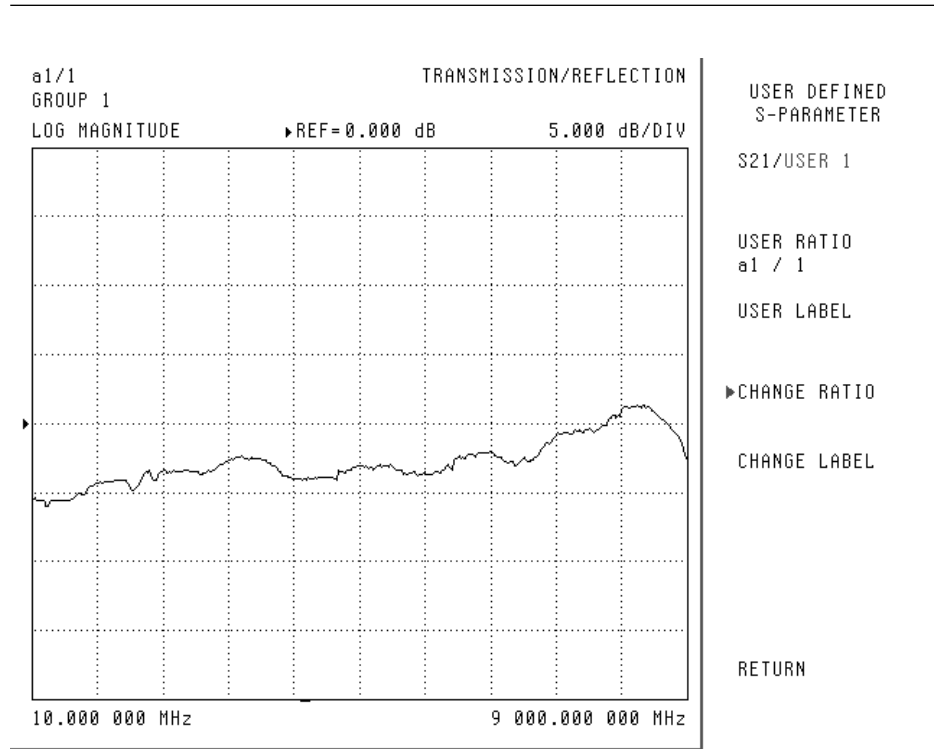

Figure 3-2. Non-Ratioed Parameters Waveforms
5. For the model under test, ensure that the minimum value of the RF display is greater than the minimum level shown for a1/1 in Table 3-1 (page 3-8). Figure 3-2 on page 3-9 shows an example of a typical non-ratio display.